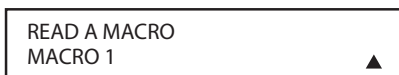

Figure 148.
4. The next display screen (**Figure 148**) is where you select the macro to be read. Press the **Navigation Button**  until the name of the macro you wish to read appears. For this example, we will read back Macro 1, created in a previous section. When the name of the macro to be read appears, press the **Set Button** .